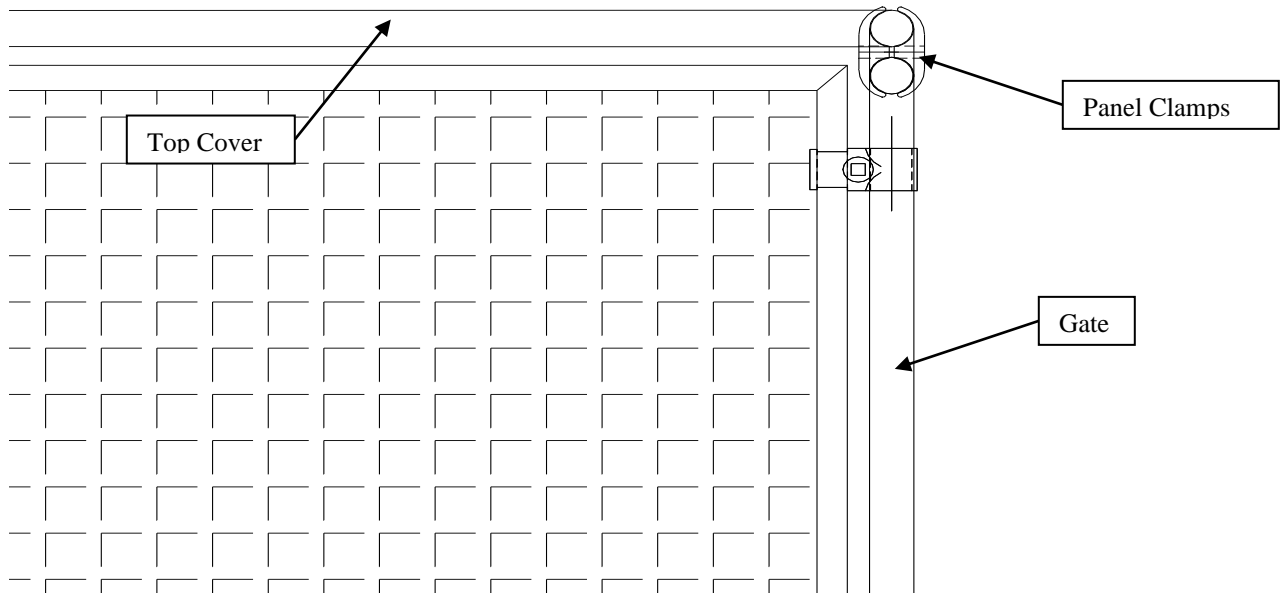

Figure 23.
- Using panel clamps, 5/16"-18 x 1-3/4" galv. carriage bolts, and 5/16"-18 nuts, connect the front tube of the top covers to the top of the gate frames. See Figure 23.